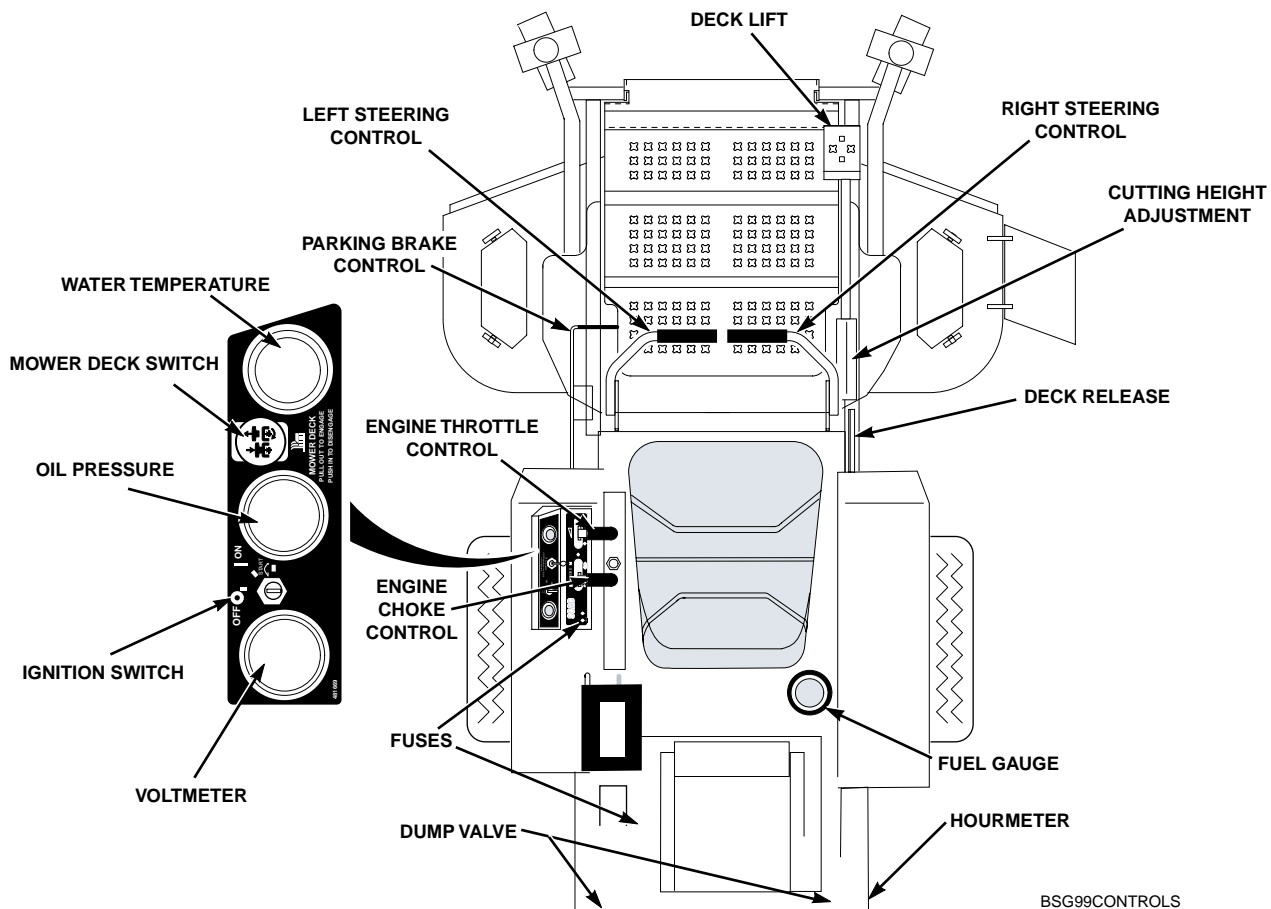

Figure 4-1 Controls and Instruments
1. **Ignition Switch (Figure 4-1).** The ignition switch is used to start the engine and has three positions; OFF, ON, and START.
2. **Mower Deck Switch (Figure 4-1).** Used to engage and disengage the mower drive system. Pulling up on the switch will engage the deck drive. Pushing down on the switch will disengage the deck drive.
3. **Engine Choke Control (Figure 4-1).** Used to start a cold engine.
4. **Engine Throttle Control (Figure 4-1).** Used to control the engine speed. Pushing the lever forward increases engine speed. Pulling the lever back decreases engine speed. Full back position is the IDLE position. Full forward is the cutting position.
5. **Voltmeter (Figure 4-1).** Indicates the condition of the charging system. When the engine is running, in normal operating conditions, the needle should be in the 12 to 14 volt range.
6. **Oil Pressure (Figure 4-1).** Indicates engine oil pressure. Reference the engine operator's manual for further information.
7. **Hourmeter (Figure 4-1).** Indicates the number of hours the engine has been operated. It operates whenever the engine is running. It can be used to keep track of maintenance intervals and the amount of time required to perform various tasks.
8. **Fuse Holders (Figure 4-1).** There are two 20-amp fuses and one 40-amp fuse that protect the mower's electrical system. To replace fuses, pull fuse out of the socket and install a new fuse.
9. **Left Steering Control (Figure 4-1).** Used to control the mower's left wheel when traveling forward or reverse.
10. **Right Steering Control (Figure 4-1).** Used to control the mower's right wheel when traveling forward or reverse.
11. **Parking Brake Control (Figure 4-1).** Used to engage and disengage the parking brakes. Pull the lever back to engage the parking brakes. Push the lever forward to disengage the parking brakes.
12. **Fuel Tank Gauge (Figure 4-1).** Indicates the amount of fuel in the fuel tank.
14. **Deck Lift Foot Lever (Figure 4-1).** Used to raise and lower the cutter deck.
15. **Cutting Height Adjustment (Figure 4-1).** Used to set the cutter deck at the desired cutting height.
16. **Deck Release Lever (Figure 4-1).** Used to lock the cutter deck in the transport position. Push the foot pedal forward and lift up on the release lever to release the cutter deck for normal mowing.
17. **Temperature Gauge (Figure 4-1).** Indicates the operating temperature of the engine.